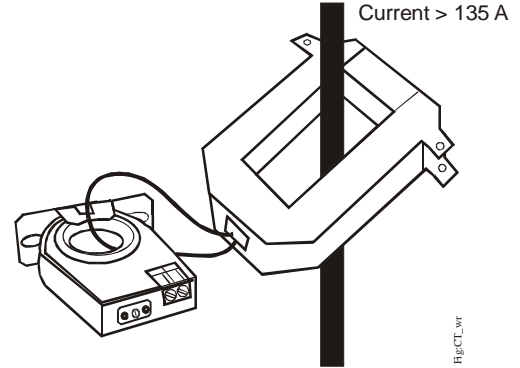

Figure 5: CSD with CT Transformer
Use a 5 A Current Transformer (CT) to reduce the current passing through the CSD as shown in Figure 5. Run the current transformer secondary wire through the sensing hole. Terminate the two secondary wires of the 5 A current transformer to each other, and then install the 5 A current transformer on the conductor being monitored.